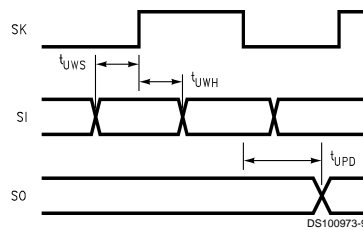

FIGURE 4. MICROWIRE/PLUS Timing
**Note 12:** MICROWIRE Setup and Hold Times and Propagation Delays are referenced to the appropriate edge of the MICROWIRE clock. See Figure 4 and the MICROWIRE operation description.
**Note 25:** MICROWIRE Setup and Hold Times and Propagation Delays are referenced to the appropriate edge of the MICROWIRE clock. See Figure 4 and the MICROWIRE operation description.